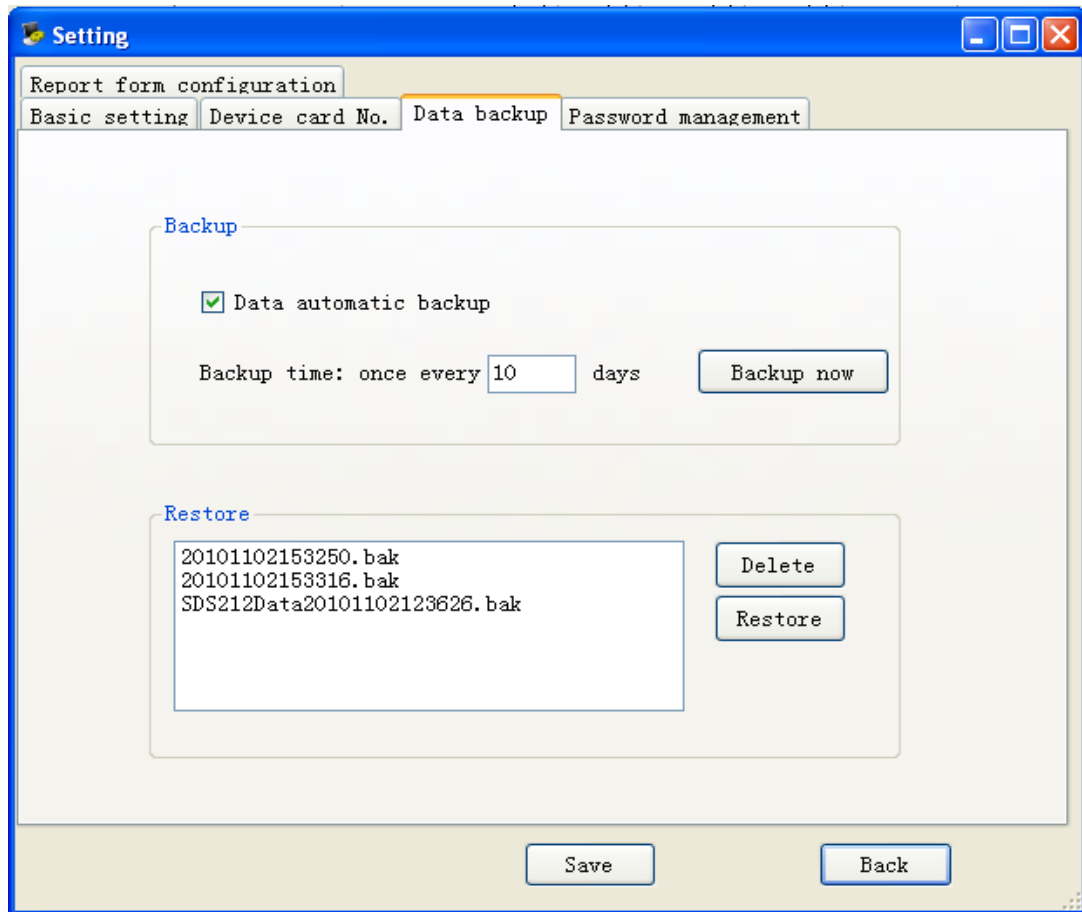

Fig. 5-1-4
**1-3.Data backup:** Click “Data Backup” on the Setup window, popup the window as Fig. 5-1-4.